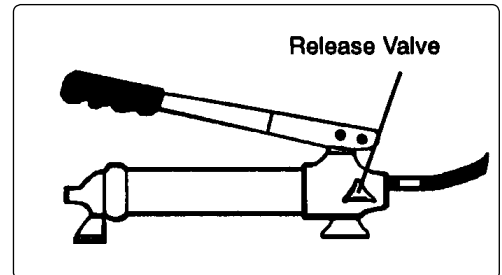

fig.1
- 4.2. To use the hydraulic pump, turn the side valve clockwise to close (fig 1). To release the hydraulic pressure, slowly turn the valve anti-clockwise.